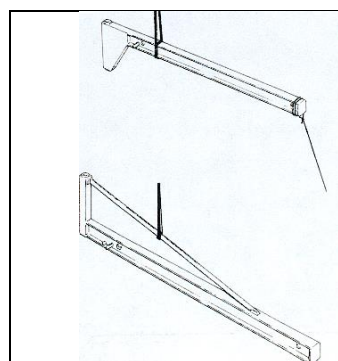

fig. 46
1. Sling the arm, using strips made of textile fibre arranged in a "loop", corresponding to the handling points shown on the labelling and lift it with suitable means (overhead travelling crane, travelling crane, etc.). Keep the girder horizontal to the ground and constantly check the stability of the slinging which must not move from the handling point. Avoid oscillations and swinging and, if necessary, to maintain the equilibrium use a rope tied to the ends of the arm (fig. 46).